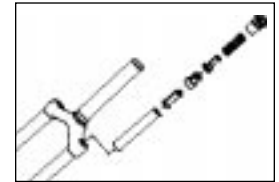

Fig. 2
2. Remove the spring stack assembly (top cap, coil spring, spring rate adjuster, urethane spacer, MCU spacer and elastomer). (See Fig. 2)